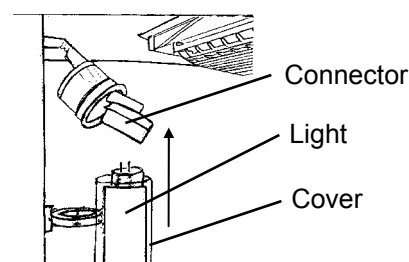

Fig. 3
7. Remove the connector, as shown in Fig. 3.